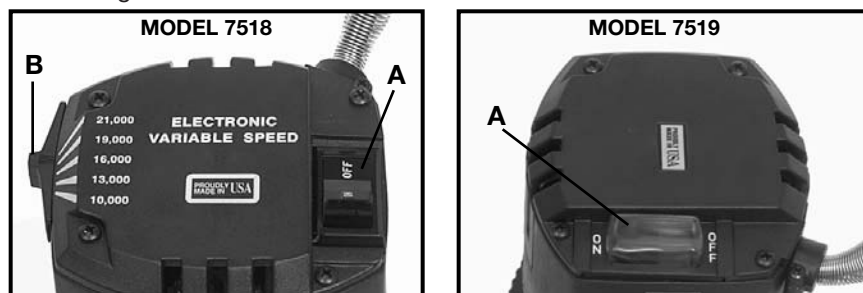

Fig. 4
The router is started and stopped by depressing the rocker switch (A), Fig. 4, into the ON or OFF position.
If the motor stops during use: (1) depress rocker switch (A), Fig. 4, into the OFF position; (2) determine cause of overload (i.e. dull bit, low voltage, excessive feed rate, etc.) and correct before continuing; (3) restart router following the instructions in TO START AND STOP ROUTER.
Model 7519 is equipped with a thermal-type circuit breaker incorporated into the ON/OFF rocker switch (A), Fig. 4. This circuit breaker will turn the switch OFF if prolonged overload conditions are encountered.
The speed control is located as shown in Fig. 4. Five operating speeds from 10,000 RPM to 21,000 RPM are available by moving the speed selector knob (B), Fig. 4. It is recommended that the speed be set prior to engaging the router bit into work. Should it be necessary to change the speed after work has begun, stop router, remove router clear of work, and adjust speed setting.